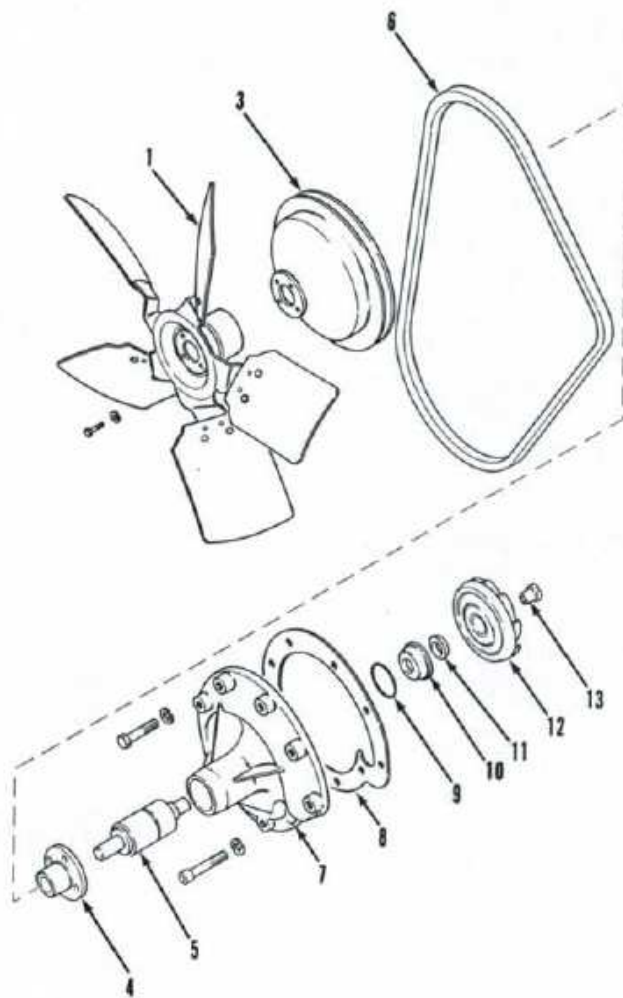
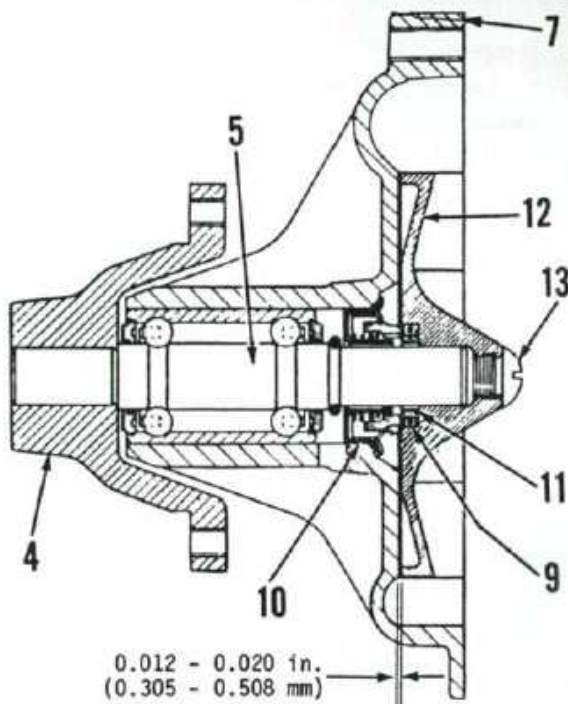

Fig. 61—Exploded view of typical water pump assembly. The five blade fan is standard. A six blade fan is used on models equipped with air conditioning.
Fig. 62—Sectional view of typical water pump, showing correct dimension for installation of impeller.
Disassemble the pump as follows: Remove plastic screw (13—Fig. 61), then using a 1/2 x 2 inch NC cap screw for a jack screw, force impeller (12) off rear end of shaft. Using two screwdrivers, pry seal assembly (10) from pump body. Support hub (4) and press out shaft. Press shaft and bearing assembly (5) out front of body. Make certain that body is supported as close to bearing as possible.
When reassembling, press shaft and bearing assembly into body using a piece of pipe so pressure is applied only to outer race of bearing. Bearing race should be flush with front end of body. Install new seal assembly (10). Press only on outer diameter of seal. Clean inside of hub (4) with degreasing solvent. Apply a light coat of Loctite to both surfaces. Support shaft assembly and press hub on shaft until hub is flush with end of shaft. Install face ring (11) and "O" ring (9) in impeller (12), then press impeller on shaft until there is a clearance of 0.012-0.020 inch (0.305-0.508 mm) between body and front of impeller. See Fig. 62. Install plastic screw (13—Fig. 61).